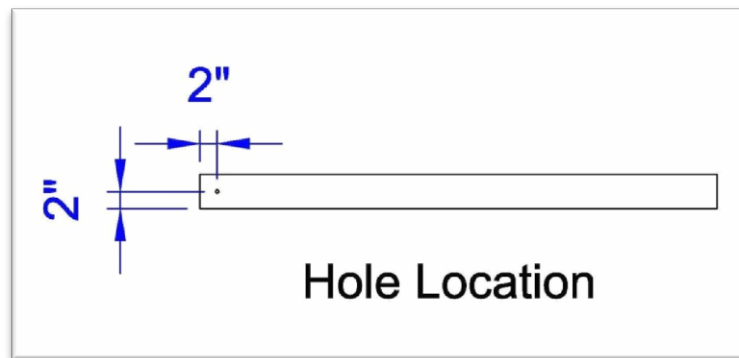

Figure A3: Hole location for each 1" x 4" x 5' board.
Step 2: Drill 3/8" hole in one end of each 1" x 4" x 5' board. Drill hole in location shown in figure A3.